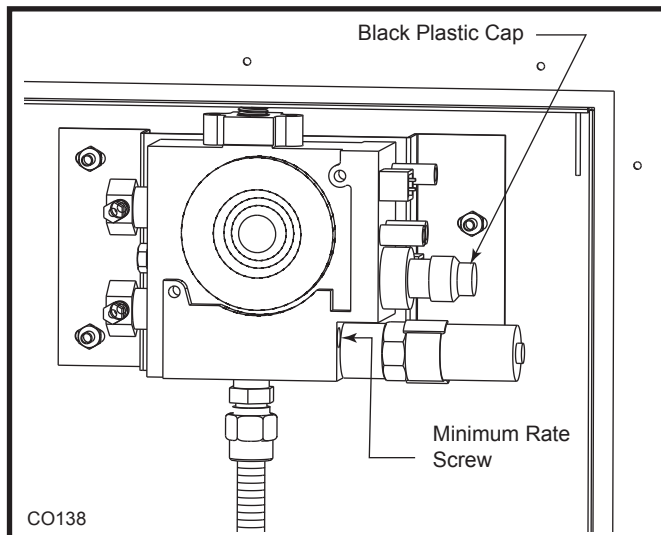
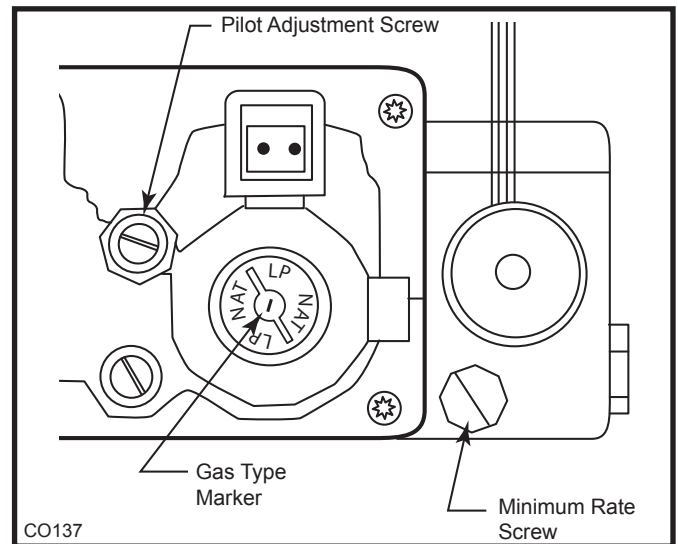

Fig. 57 AF4000 Valve in place.
Fig. 58 Remove black plastic cap and adjust rotary knob to correct gas type. (LP position shown) Replace minimum rate screw with one supplied in conversion kit.
1. Remove two (2) screws holding the pilot assembly to the burner assembly. Move the pilot assembly toward the back wall.
3. Remove four (4) screws holding the burner assembly to the firebox floor.
7. Locate the black plastic cap on the gas valve. (Fig. 57) Remove the black cap by pulling the cap straight off. Note the position of the marker on the top of the rotary knob. This marker will point to NAT or LP. (Fig. 58)
9. Remove the slotted brass minimum rate screw located in the valve next to the motor drive. (Fig. 58)